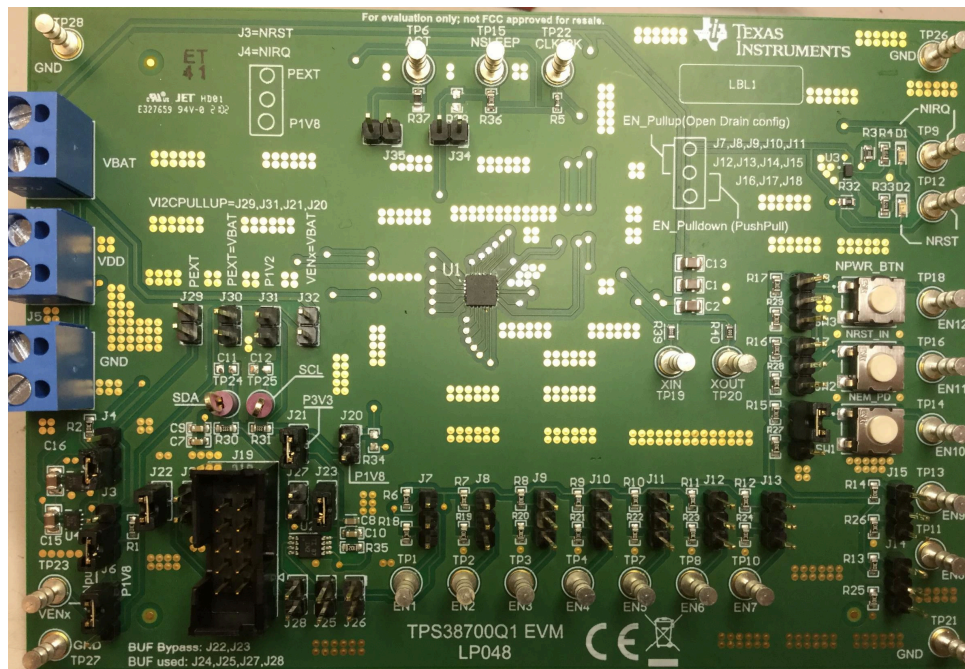

Figure 3-1. Jumper Settings
Table 3-2 lists the jumpers on the TPS38700Q1EVM. As ordered, the EVM will have sixteen (16) jumpers installed. Figure 3-1 is provided as visual aid.